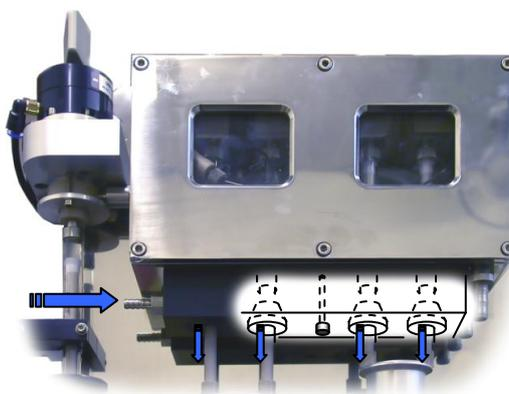

Figure 2.41: position of the gas tube connector of the anaerobic accessory
1) The purge manifold should be fitted with the drive syringes empty and the drive rams removed. Push it up so that it rests against the underside of the thermostat bath and encloses the drive syringe plungers with the gas tube connector pointing to the left as in Figure 2.41. Tighten the single screw in the middle to hold it in place.